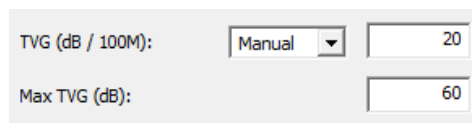

Figure 43: Inputting a Manual TVG
- iii. *Manual:* this option allows the user to input a manual TVG value. This number is specified in the box to the right of the drop down menu. When this option is selected, the user can also specify a maximum TVG value in the **Max TVG (dB)** field (see Figure 43). This option also requires constant monitoring of the side scan imagery so that the correct TVG value is applied to the bathymetric solutions.